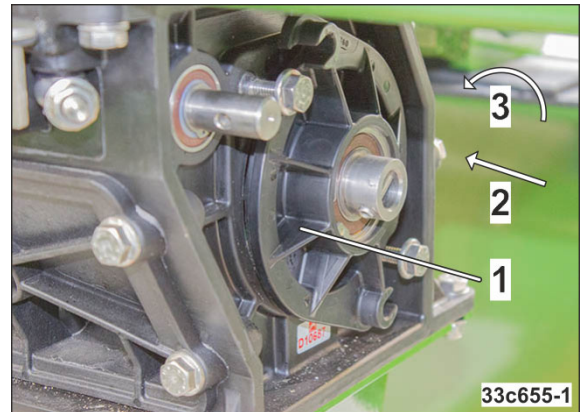

Fig. 270
5. Close the housing cover (Fig. 270/1).